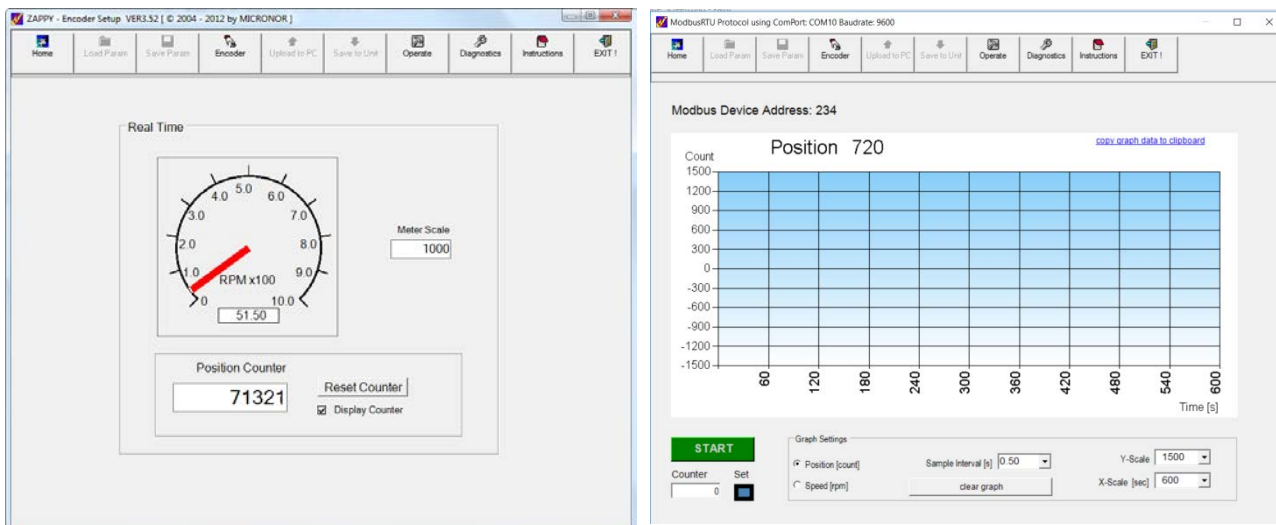

Figure 17. OPERATE Screen displays Real-time Encoder Operation. New Version 4.00 right
STEP 3. Select [DIAGNOSTICS] to view various monitoring points within the MR320. Figure 17 shows the initial screen or else when the encoder is not moving. When the encoder is still, the system cannot take a snapshot of these internal points since there is no slit-to-slit movement - hence the red-framed **RPM TOO SLOW** message. Depressing [DIAGNOSTICS] tab while the encoder is rotating provides a snapshot of the internal monitoring points as shown in Figure 18. Checking the “Continuous box:” will repeatable update the entire set of readings while the individual diagnostic groups (Voltage Test, Analog Outputs, get Speed are updated when clicked. A brief explanation of the relevant diagnostic fields follows on the next page.